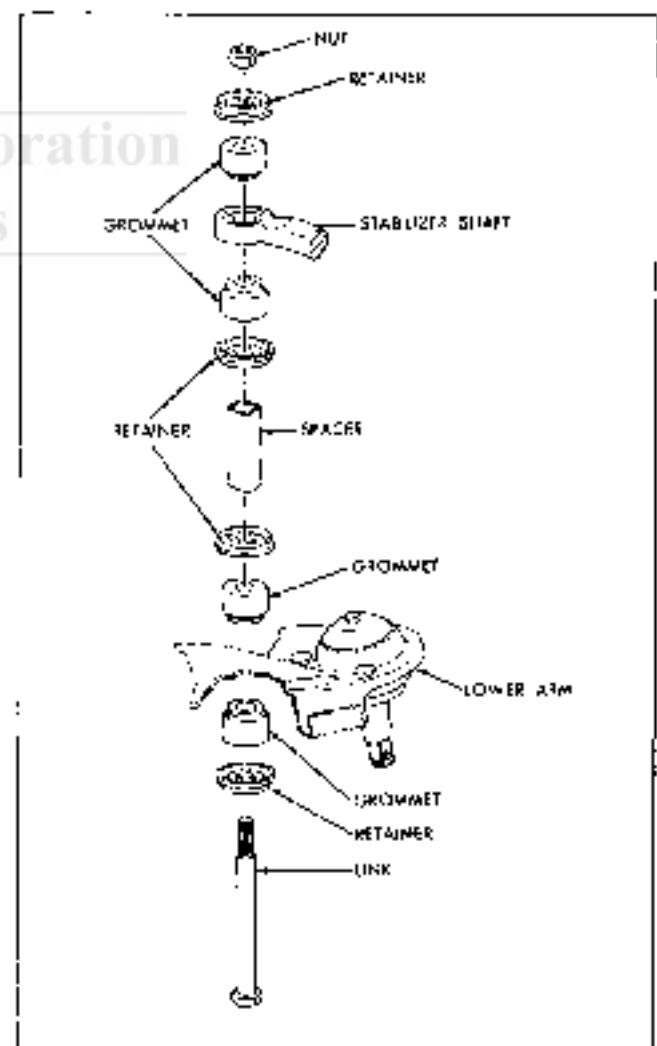

Fig. 3-8 Exploded View of Stabilizer Link
2. Install link assembly as shown in Fig. 3-8. Tighten nut 15 lb. ft. torque (Pontiac and Tempest) 30 lb. in. torque (Firebird).